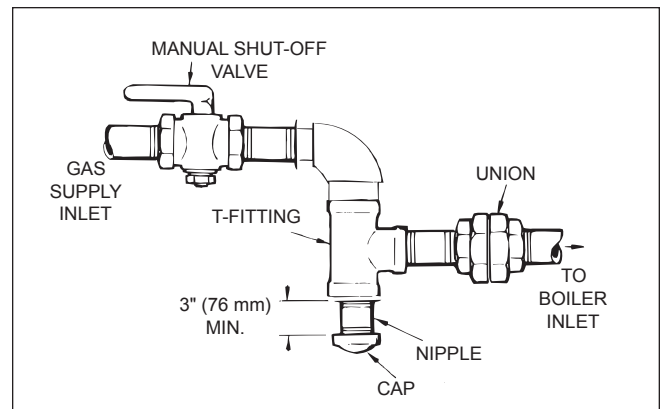

Figure 24. T-Fitting and sediment trap.
- Install a sediment trap (drip leg) ahead of the gas controls (see Figure 24). Fit the trap with a threaded cap which can be removed for cleaning.